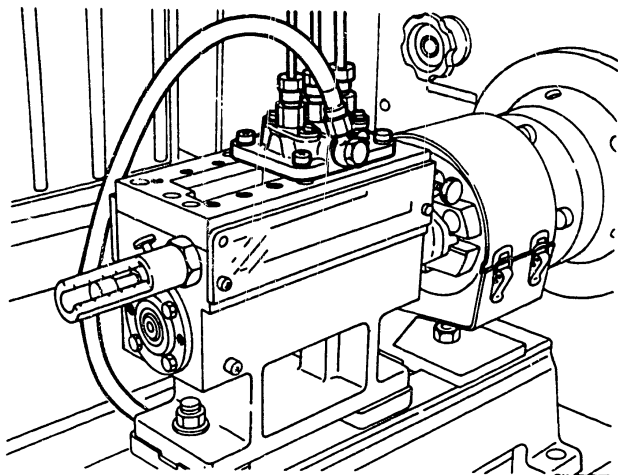

Fig. 66 Attaching the injection pipes
- 1. Install the test nozzle holders on the pump test stand and connect the injection pipes (1 680 750 014) to the delivery valve holders. (Figure 66)**